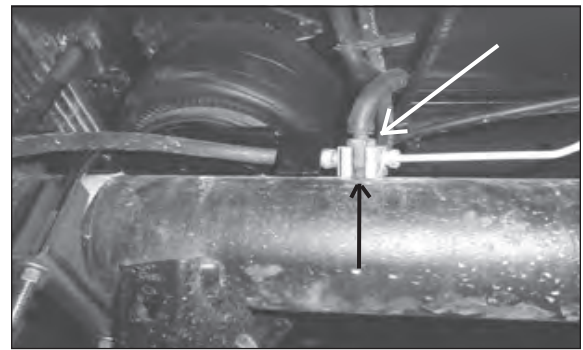

Figure 13
1. Position the lower bracket so the inboard leg straddles the brake line. On disk brake models, it may be necessary to loosen the axle vent bolt (Figure 13) and rotate the brake junction box clockwise to clear rear leg of lower bracket.